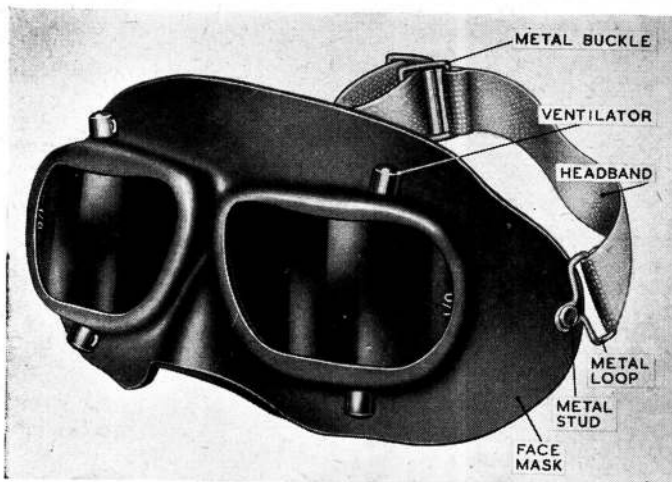

Fig. 3. Instrument flying practice goggles, Mk. I
9. These goggles (fig. 3) are provided for use in daylight to simulate night conditions for training purposes. The artificial night effect is obtained by light absorption filters incorporated in the goggles and in screens on the aircraft.
23. These goggles have the same facepiece as the instrument flying practice goggles, Mk. 1 (*fig. 3*), but are fitted with different filter windows. The goggles are supplied under the following Stores Reference numbers:—